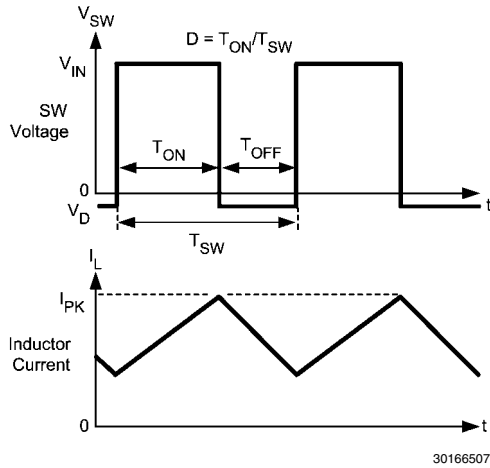

FIGURE 2. LMR12010 Waveforms of SW Pin Voltage and Inductor Current
The following operating description of the LMR12010 will refer to the Simplified Block Diagram (Figure 1) and to the waveforms in Figure 2. The LMR12010 supplies a regulated output voltage by switching the internal NMOS control switch at constant frequency and variable duty cycle. A switching cycle begins at the falling edge of the reset pulse generated by the internal oscillator. When this pulse goes low, the output control logic turns on the internal NMOS control switch. During this on-time, the SW pin voltage ( $V_{SW}$ ) swings up to approximately  $V_{IN}$ , and the inductor current ( $I_L$ ) increases with a linear slope.  $I_L$  is measured by the current-sense amplifier, which generates an output proportional to the switch current. The sense signal is summed with the regulator's corrective ramp and compared to the error amplifier's output, which is proportional to the difference between the feedback voltage and  $V_{REF}$ . When the PWM comparator output goes high, the output switch turns off until the next switching cycle begins. During the switch off-time, inductor current discharges through Schottky diode D1, which forces the SW pin to swing below ground by the forward voltage ( $V_D$ ) of the catch diode. The regulator loop adjusts the duty cycle (D) to maintain a constant output voltage.
In the Simplified Block Diagram of Figure 1, capacitor CBOOST and diode D2 supply the gate-drive current for the NMOS switch. Capacitor CBOOST is charged via diode D2 by VIN. During a normal switching cycle, when the internal NMOS control switch is off (TOFF) (refer to Figure 2), VBOOST equals VIN minus the forward voltage of D2 (VFD2), during which the